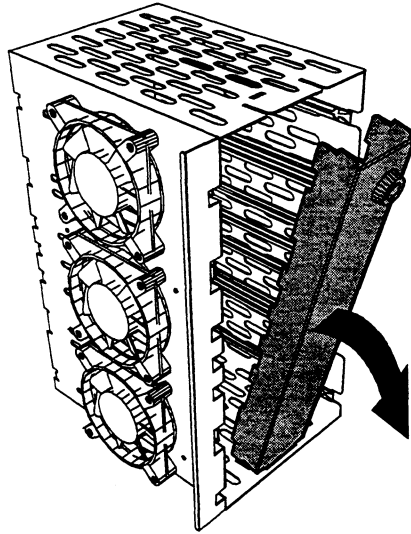

Figure 3-5 Opening the lock
4. Swing the lock out and away from the hot-swap cage as shown in Figure 3-5.